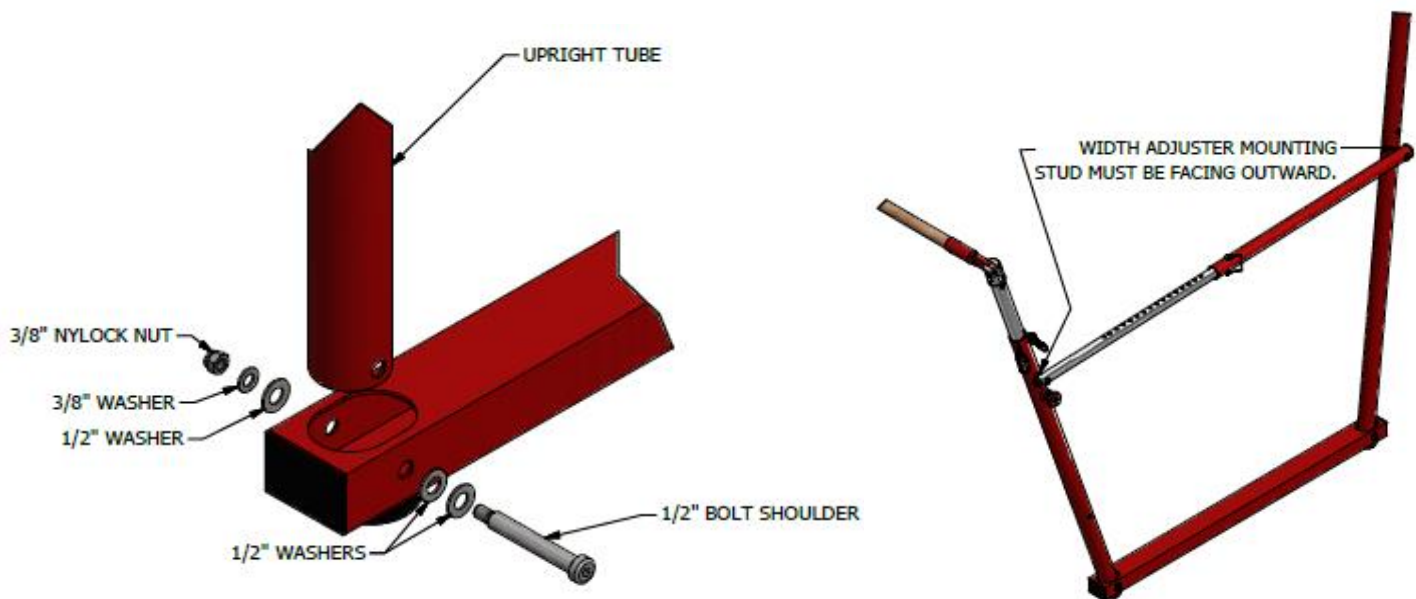

Figure 1: Uprights to Bases Assembly
5. **Make sure that each upright is positioned with the width adjuster mounting stud facing outwards** (See Fig. 1 below).
6. Insert shoulder bolts, lock washers and washers as shown on Fig. 1 below. **Securely tighten the lock nuts to the shoulder bolts.**